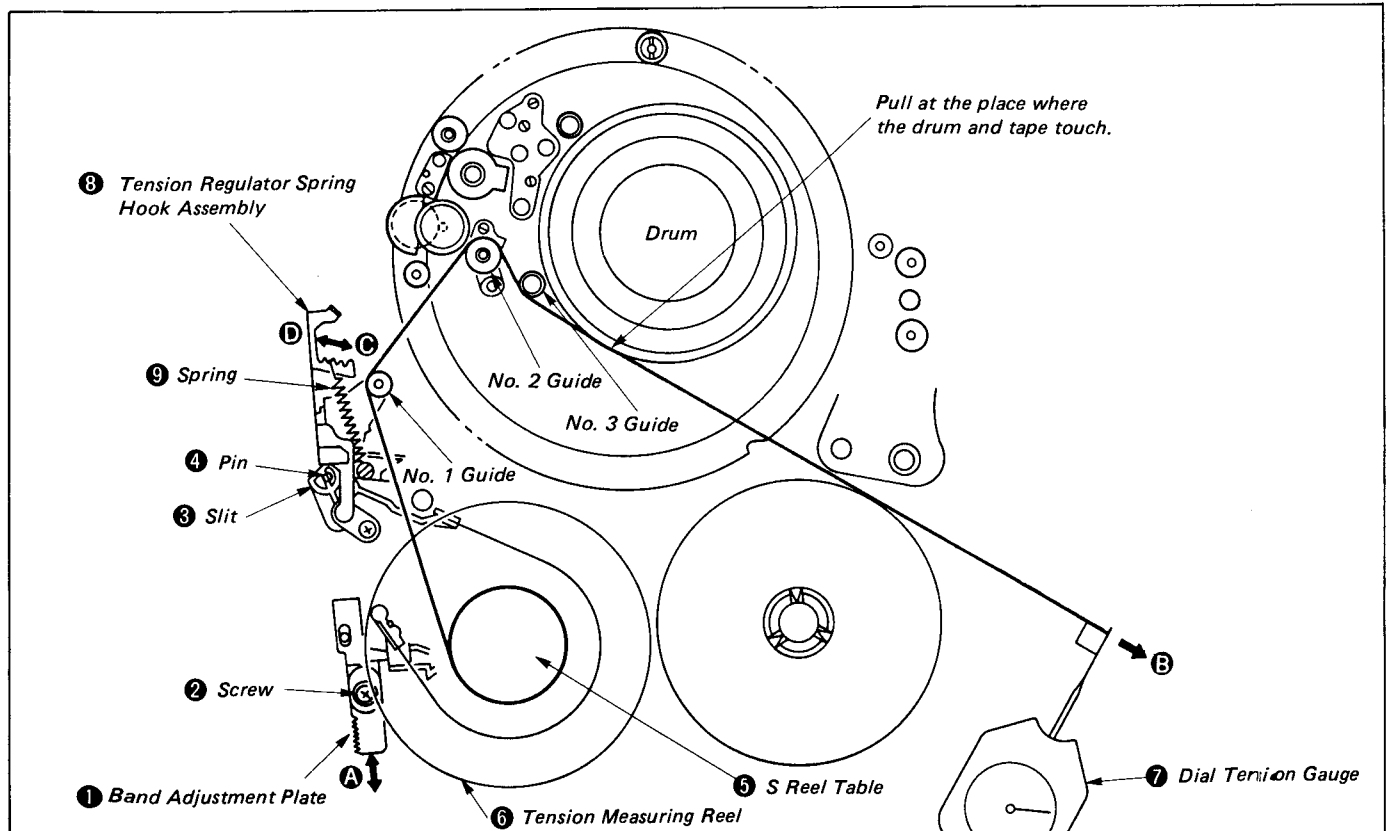

Fig. 1-56
- 2) Loosen the screw ② of the band adjustment plate ①, adjust the slit ③ and pin ④ of the tension regulator arm assembly to be in the position shown by the arrow **A** in the Fig. 1-56, then tighten the screw ②.
- 3) Place the reel (Ref. No. J-7) ⑥ to measure tensions on the S reel table ⑤ and run a tape along No. 1, 2 and 3 guides and the drum.
- 4) Pull the dial tension gauge (Ref. No. J-6) ⑦ in the arrow **B** direction and re-place the spring ⑨ on the tension regulator spring hook assembly ⑧ as mentioned below so that the value becomes $13.0 \pm 1g$. (See Fig. 1-56.)